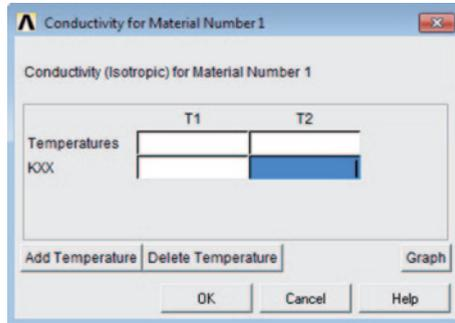

Fig. 9.3 Adding temperatures for temperature-dependent material properties
- Click on the *Add Temperature* button four times (so that there are five temperature slots) (Fig. 9.3).